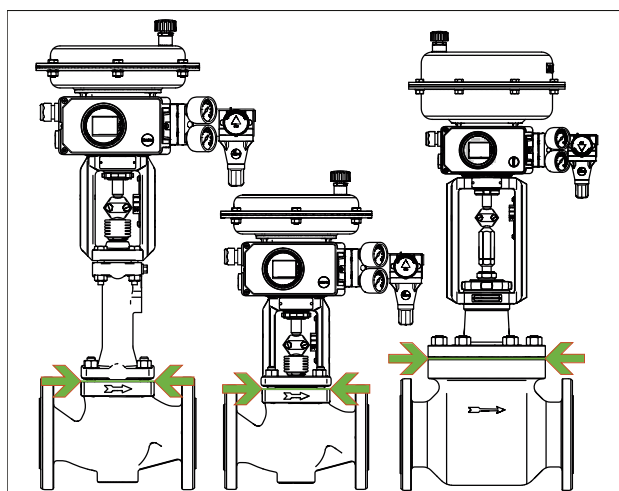

Fig. 21: Limit of insulation for control valves (example shown)
- ⇒ Only insulate control valves up to the bonnet flange of the valve body (see Fig. 21). This also applies to versions with bellows seal or insulating section at medium temperatures below 0 °C or above 220 °C. If the insulating section is insulated, it will not function properly.